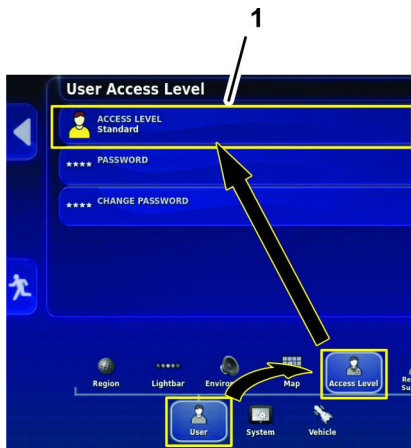

Figure 130
1. On the setup screen, press the USER icon, press the ACCESS LEVEL icon (Figure 130).